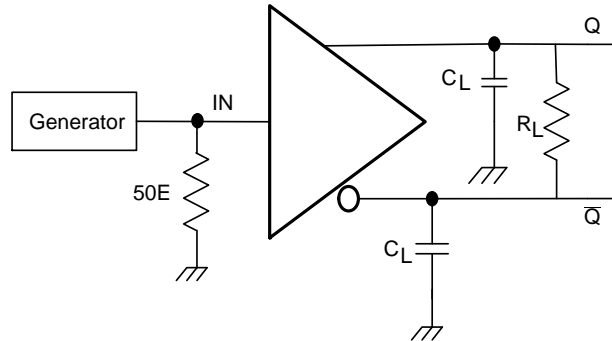

Figure 3. Propagation Delay & Transition Time Test Circuit for Differential Driver
5. Test Conditions for the above – $R_L = 100 \Omega$, $C_L = 15 \text{ pF}$ (includes Load & Jig Capacitance), Figures 3 and 4